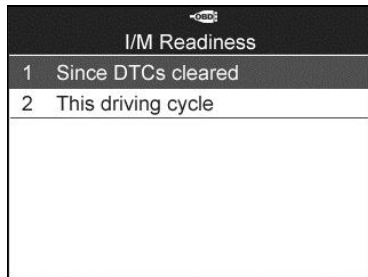

Figure 6.14
- 3) If the vehicle supports both types of tests, then both types will be shown on the screen for selection (Figure 6.14).